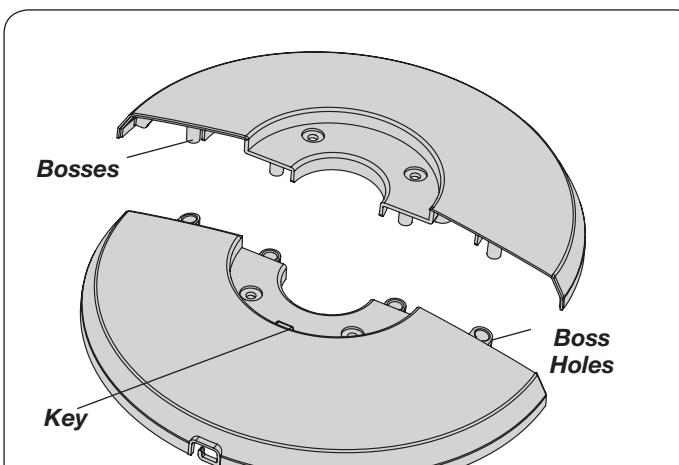

Figure 2
1. Assemble the Base by interlocking the **Bosses** into the **Boss Holes**. (Figure 2)
### TIMER FUNCTION (Figure 2)